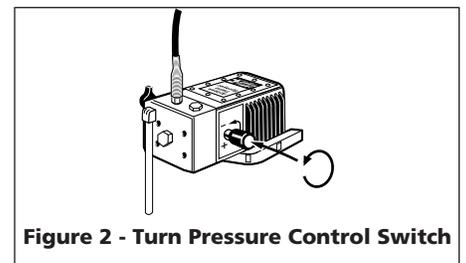

Figure 2 - Turn Pressure Control Switch
1. Turn Pressure Control fully counter-clockwise to the Low Pressure/Hydraulic Bleeding position (See Figure 2).